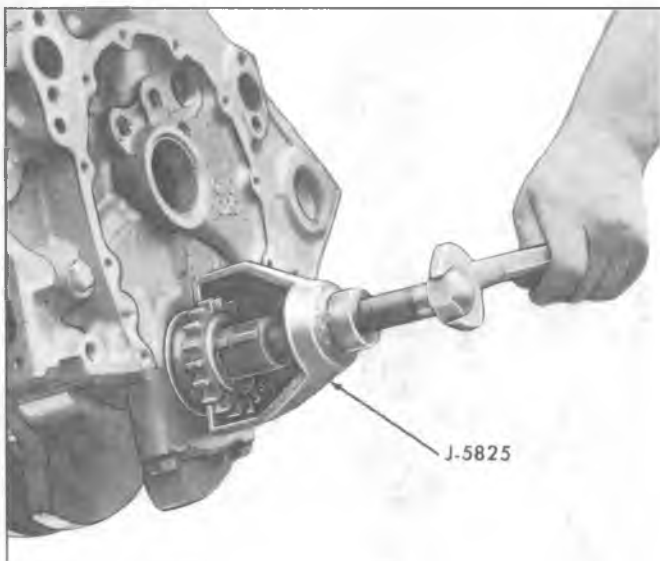

Fig. 12V—Installing Oil Seal (Cover Installed)
2. Install new seal so that open end of seal is toward the inside of cover and drive it into position with Tool J-23042 on Small V8 engines or Tool J-22102 on "Mark IV V8" engines (fig. 12V).